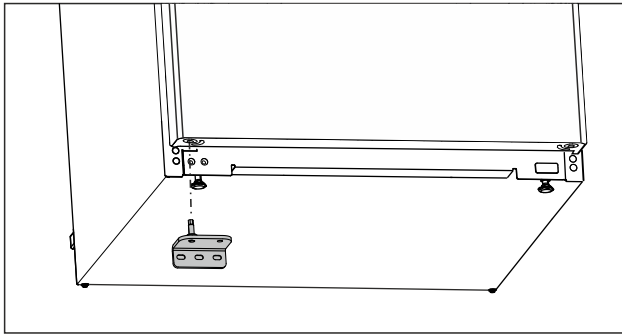

Fig. 24
- ▶ Insert the lower swap bearing block on the opposite side. (see Fig. 24)